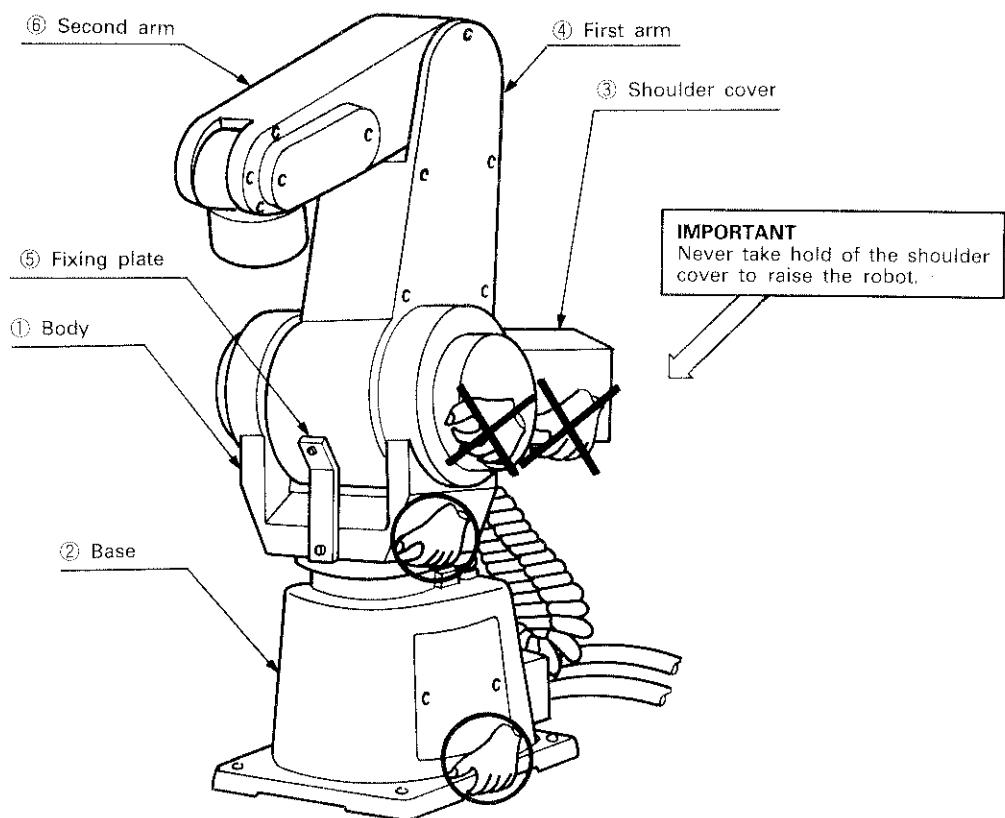
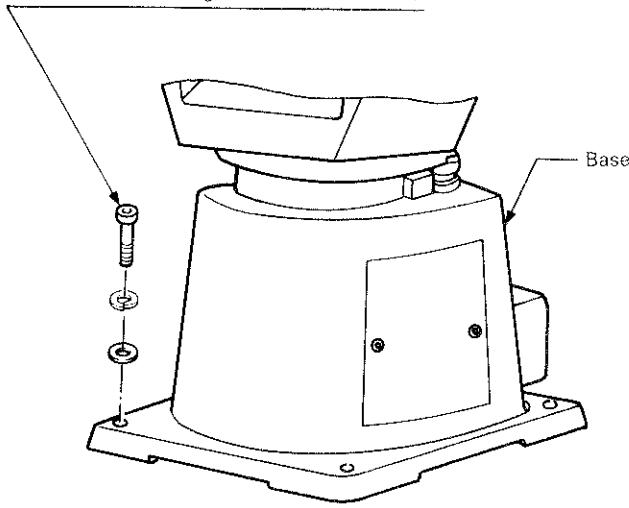
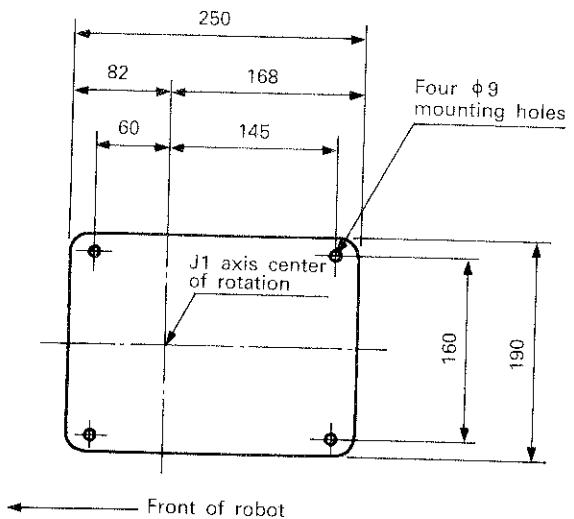

Fig. 2.1.1 Transportation of the Robot
Fig. 2.1.2 Installation of the Robot
Fig. 2.1.3 Robot Installed Dimensions
- (1) Fig. 2.1.1 shows the locations to be held by hands when transporting the robot.
- (2) Before transporting the robot, release the brakes in accordance with Section 2.2.4, Vol. 2, move the first arm (4) in the positive direction and the second arm (6) in the negative direction until they are pressed against the stoppers as shown in Fig. 2.1.1, and install the arm fixing plate (5) to the first arm (4) and body (1).
- (3) When raising the robot, take hold of the underside of body (1) or base (2) with your both hands.
- (4) Never take hold the sides or back of shoulder cover (3), or damage to the cover or personal accident could result.
- (5) The fixing plate (5) must be reinstalled before transportation to protect the arm (4) (6) during transportation. The robot must be transported in the attitude shown in Fig. 2.1.1.
- (6) The above paragraph (2) must be followed when the robot is installed on the other equipment and transported together with that equipment.
- (1) Fig. 2.1.2 shows how the robot is installed.
- (2) The robot mounting surface has been machined for accurate installation. Using the $\phi 9$ mounting holes provided at four corners of the base and the installation bolts (M8 X 30 hexagon socket head bolts) furnished, secure the robot onto the floor.
- (3) It is recommended that common surface plates be used to ensure that the robot is properly aligned with the equipment, jigs, and fixtures on which the robot works.
- (4) Surface roughness of the surface plates onto which the robot is to be secured must be $\nabla\nabla$ or more. A rough surface is the cause of poor contact between the robot and surface plate, resulting in misalignment.
- (5) The fixing plate (4) is installed before shipment as shown in Fig. 2.1.1 to protect the arm (5) during transportation. Remove this plate before operating the robot.
- (6) The customer should keep the fixing plate as it must be used when transporting the robot.
- (7) Fig. 2.1.3 shows the installed dimensions of the robot.
- (8) Remove the arm fixing plate after the installation is complete. When the robot is transported on a surface plate, this plate must be kept fit on the robot until the robot is finally installed.